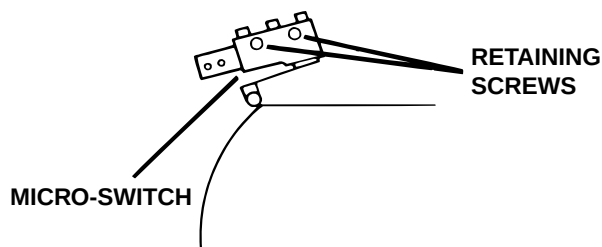

Figure 5-17. Micro-Switch Adjustment
2. For all switches except the Leg Section switches, carefully loosen the switch retaining screws, and adjust the switches as needed. See figure 5-17.